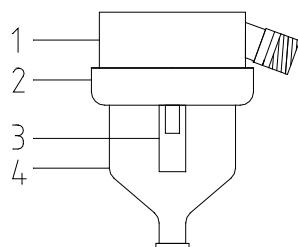

Fig. 4.5a
With vacuum systems the sample volume is adjustable by the length of the silicon hose (3 in Fig. 4.5a) inside the vacuum chamber (4). The longer the hose the smaller the sample volume. Standard sample volume is  $\pm 50$  cc, to change follow the following procedures.
- Carefully loosen the PP glass holder(2) counter clockwise until the glass(4) is loose from the vacuum head
- Determine the length of the silicon hose (3) (lengthen or shorten)